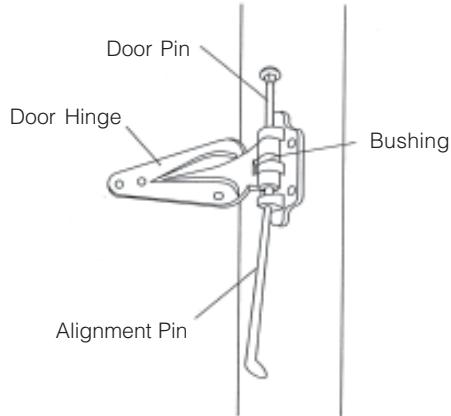

Figure 3-17. Align Door and Cabinet Hinges
25. For each door hinge, insert alignment pin through hinge (from the bottom) to align door and cabinet hinges (see Figure 3-17). Place four-inch door pin in top of hinge.
26. Using an alignment pin, raise hinges enough to insert first bushing (see Figure 3-17). Hammer door pin partially down through first bushing. Insert second bushing and hammer door pin down completely.